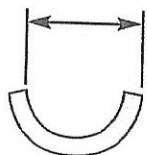

Fig. 8
**A**LL gouges are measured from the inside to the outside, as shown in Fig. 8.